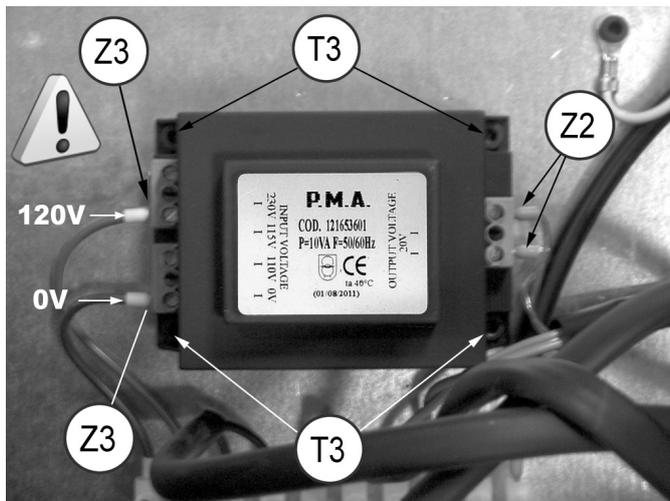

Fig. 55
- 3) Loosen the 2 screws (Z2) fixing the low voltage (transparent) cables (20V) (Fig. 55).
**Take care that the position is correct according to the voltage (Fig. 55).**